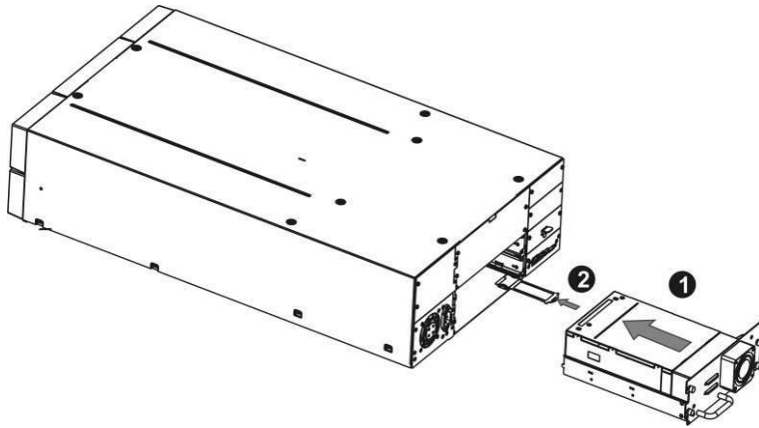

**Figure 29 Pullout tab for product ID (4U)**
4. Slightly pull out the pull-out tab for the product ID label so it does not interfere with the tape drive, see **Figure 29**